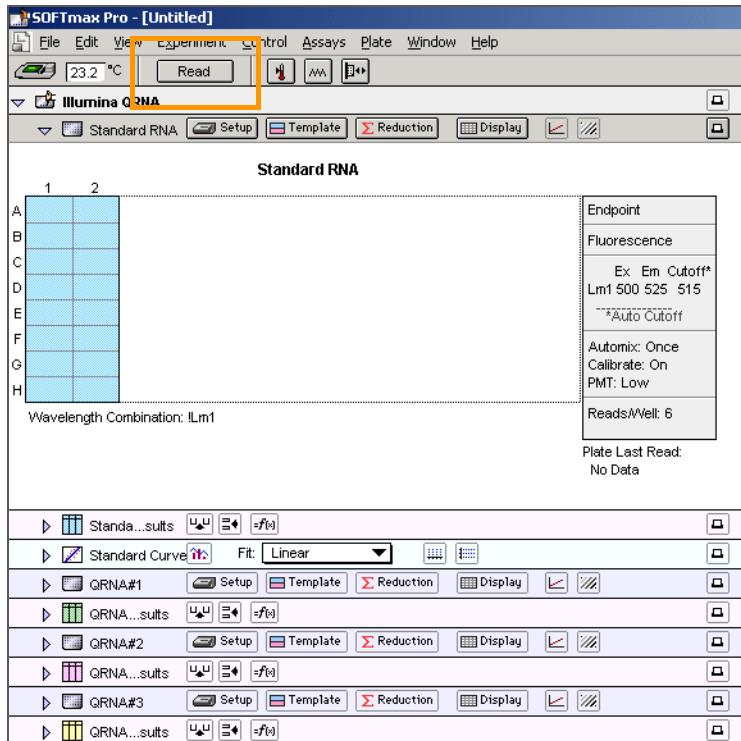

Figure 70 Read the Standard QRNA Plate
- Click **Read** in the SoftMax Pro interface (Figure 70) to begin reading the Standard QRNA Plate.